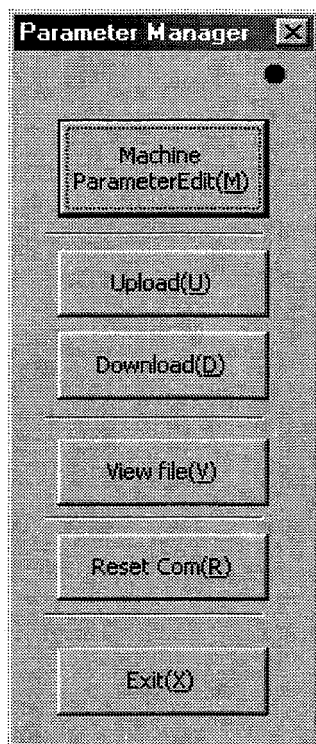

Figure 7.31 "Parameter Manager" dialog box
Click "*Parameter (M)*" under "MainMenu" to display the "Parameter Manager" dialog box (see Figure 7.31).